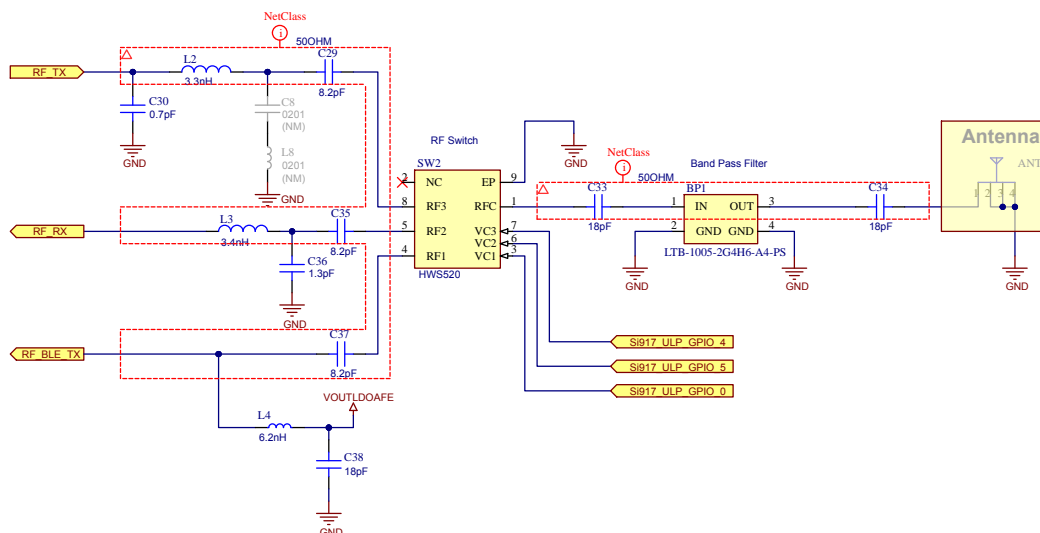

Figure 8.4. Option 1: RF Frontend with External Switch
- Sensitivities may be degraded for channels 19, 39 by up to 2 dB in External Switch configuration (Figure 8.4) and up to 8 dB in Internal Switch configuration (Figure 8.5), from the min value of all channels 0 to 39, at typical/room temperature.
14. Apart from the required RF Frontend components shown above in either Figure 8.4 or Figure 8.5, C24 is the mandatory component to be mounted on VOUTLDOAFE pin as shown in Figure 8.2, either for Internal or External switch RF frontend design.